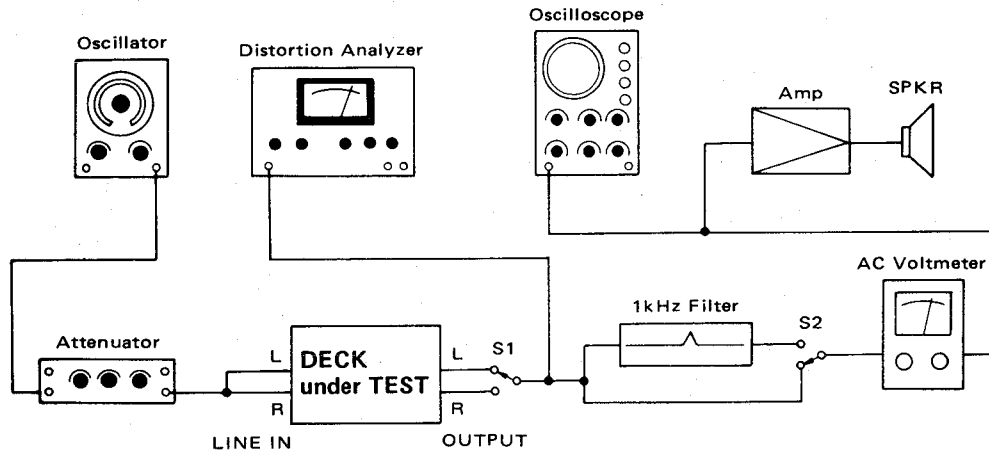

Fig. 5-1 Basic test setup
16. Erase efficiency	- Connection is same as in Fig. 5-1, but engage 1-kHz filter. - Record a 1-kHz signal. Rewind tape to midpoint of recorded portion. Record a "no signal" portion. Find the difference between the 1-kHz portion and the "no-signal" portion.
17. REC MUTE function	- Connection: Fig. 5-1, but engage 1-kHz filter. - Record a 1-kHz signal. Hold REC MUTE button depressed for several seconds. (At this time, make sure LED on the button lights). Rewind and play the tape. Find the difference between the 1-kHz portion and the "no-signal" portion.
18. Channel separation	- Connection Fig. 5-1, but do not connect LINE IN (R), and engage 1-kHz filter. - Set the deck to record mode. Find the difference between the 1-kHz recorded portion (L-ch) and the "no signal" portion (R-ch).
19. Adjacent track crosstalk	- Connection: Fig. 5-1, but do not connect LINE IN (L) and OUTPUT (L). - Record a 125-Hz signal on R-ch and note output level. Invert tape and play R-ch track. Check leakage level against the output reference of previously recorded portion.